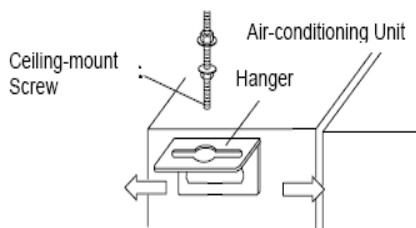

Fig.40
- (2) Install the hanger onto the indoor unit as Fig.40 shows.